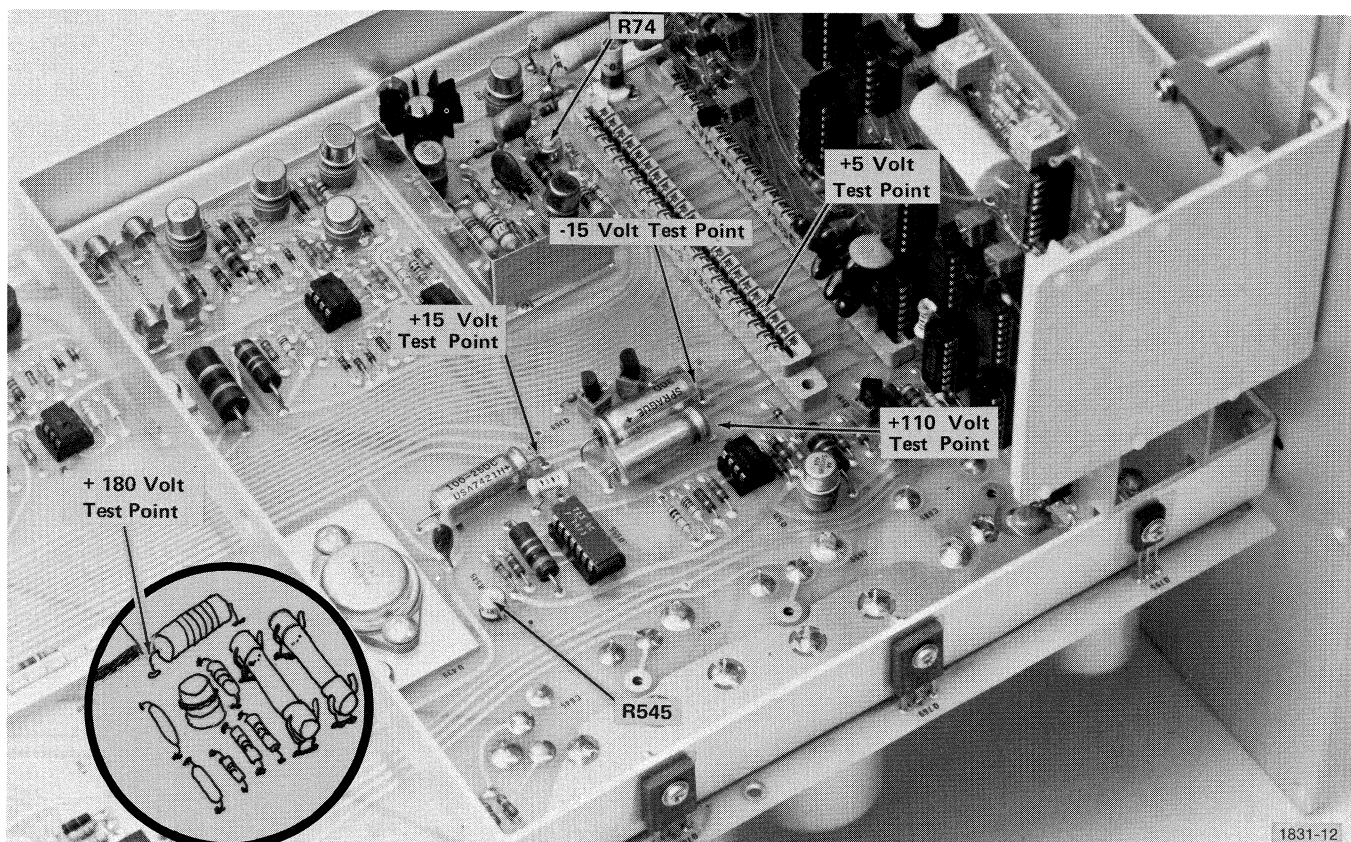

Fig. 4-1. Low voltage test points.
2. CHECK or ADJUST Power Supplies (Fig. 4-1)
- a. Remove mainframe and place on extender (Fig. 4-1). See Removing the Instrument from the Cabinet in this Section.
- (2) Remove the input signal from the Hard Copy Unit.
- (3) Press COPY and ADJUST R74 on the Main board (Fig. 4-1) for the 20 volt dc level during copy time.
- (4) Connect a signal from a terminal or storage unit to the 15-pin connector on the back panel of the Hard Copy Unit.
- (5) Press COPY and CHECK for a signal having a $77.5 \text{ V} \pm 5\%$ peak level with a 20 V base line.